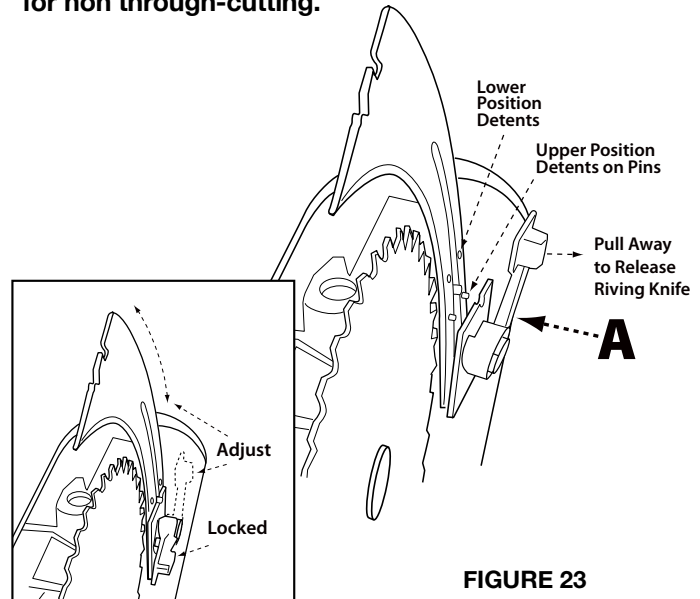

FIGURE 23
3. Pull riving knife release lever (A) up to release riving knife from clamping mechanism. See Figure 23.